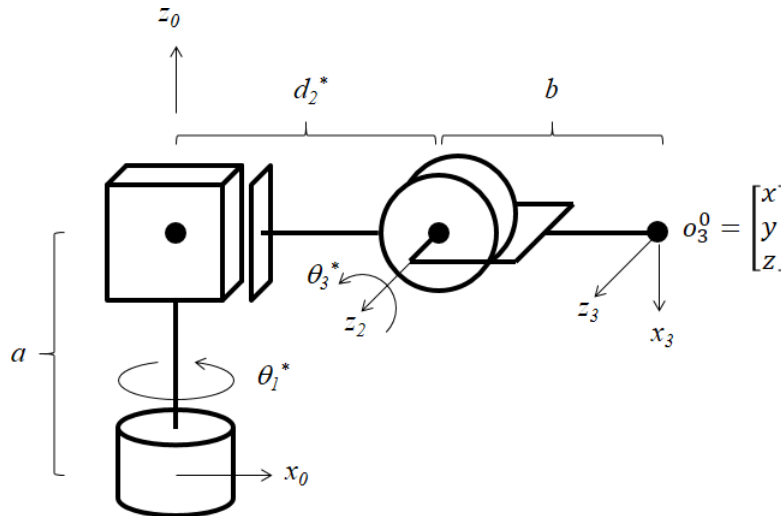

Figure 5: An RPR robot. The figure shows the robot with joint angles $\theta_1 = 0$ and $\theta_3 = 0$.
3. Consider the robot shown in Figure 5.
Redraw Figure 5 to include frame $\{1\}$ and frame $\{2\}$ placed according to the Denavit-Hartenberg convention, and provide the table of Denavit-Hartenberg parameters.